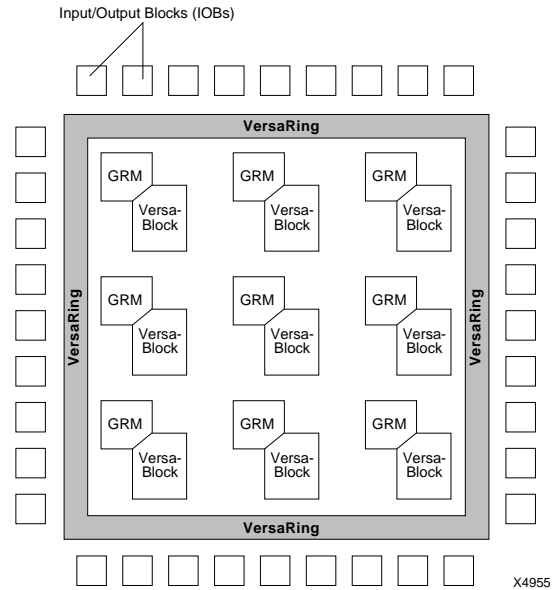
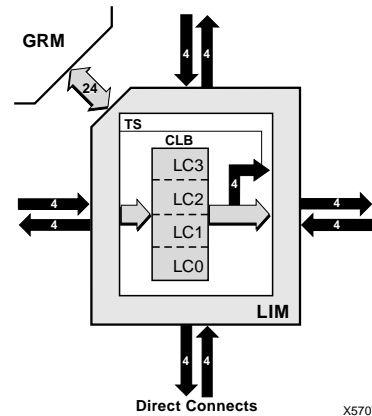
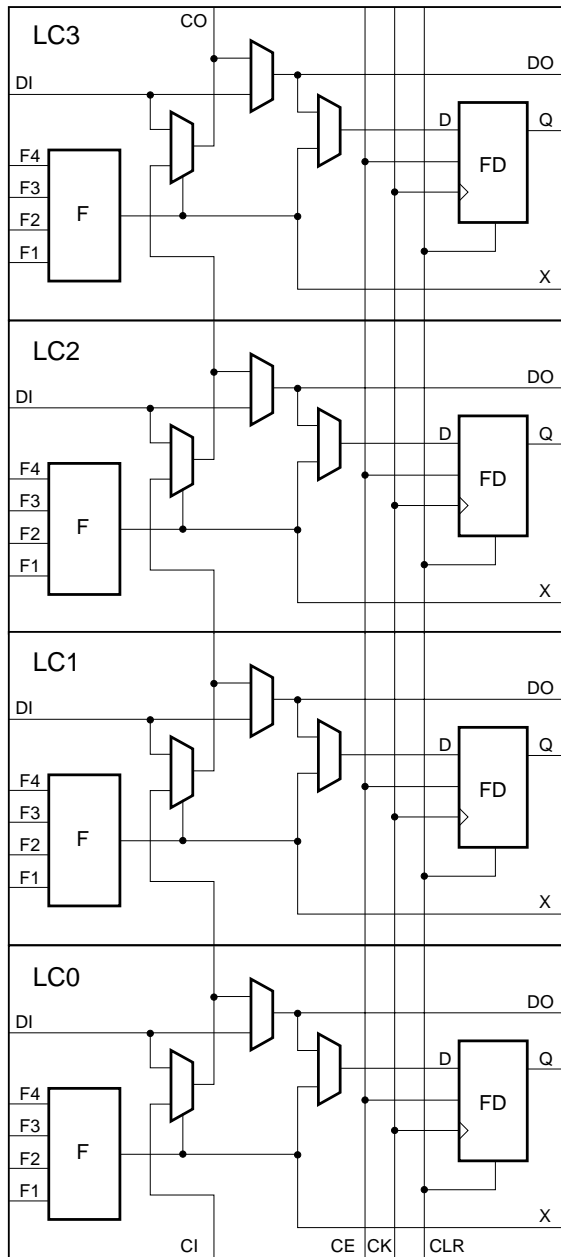

Figure 1: XC5200 Architectural Overview
Figure 2: VersaBlock
Figure 4: Configurable Logic Block
Figure 1 presents a simplified, conceptual overview of the XC5200 architecture. Similar to conventional FPGAs, the XC5200 family consists of programmable IOBs, programmable logic blocks, and programmable interconnect. Unlike other FPGAs, however, the logic and local routing resources of the XC5200 family are combined in flexible VersaBlocks (Figure 2). General-purpose routing connects to the VersaBlock through the General Routing Matrix (GRM).
The XC5200 CLB consists of four LCs, as shown in Figure 4. Each CLB has 20 independent inputs and 12 independent outputs. The top and bottom pairs of LCs can be configured to implement 5-input functions. The challenge of FPGA implementation software has always been to maximize the usage of logic resources. The XC5200 family addresses this issue by surrounding each CLB with two types of local interconnect — the Local Interconnect Matrix (LIM) and direct connects. These two interconnect resources, combined with the CLB, form the VersaBlock, represented in Figure 2.
Figure 4 shows the logic in the XC5200 CLB, which consists of four Logic Cells (LC[3:0]). Each Logic Cell consists of an independent 4-input Lookup Table (LUT), and a D-Type flip-flop or latch with common clock, clock enable, and clear, but individually selectable clock polarity. Additional logic features provided in the CLB are:
Four fast feed-through paths from DI to DO are available, as shown in Figure 4. This bypass is sometimes used by the automated router to rewire internal signals. In addition to the storage element (Q) and direct (DO) outputs, there is a combinatorial output (X) that is always sourced by the Lookup Table.